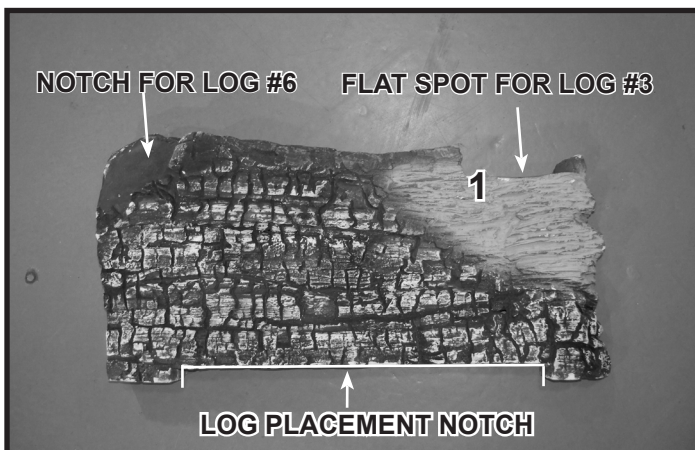

Figure 2
**Log #1 SRV2280-741 (TRUE-36), SRV2281-741 (TRUE-42):** Locate log placement notch on the bottom of log #1. See Figure 2. Mate outer notches on the bottom of Log #1 with the log placement tabs. Slide Log #1 toward the rear of appliance until back side of Log #1 contacts the log placement tabs. See Figures 1-3.